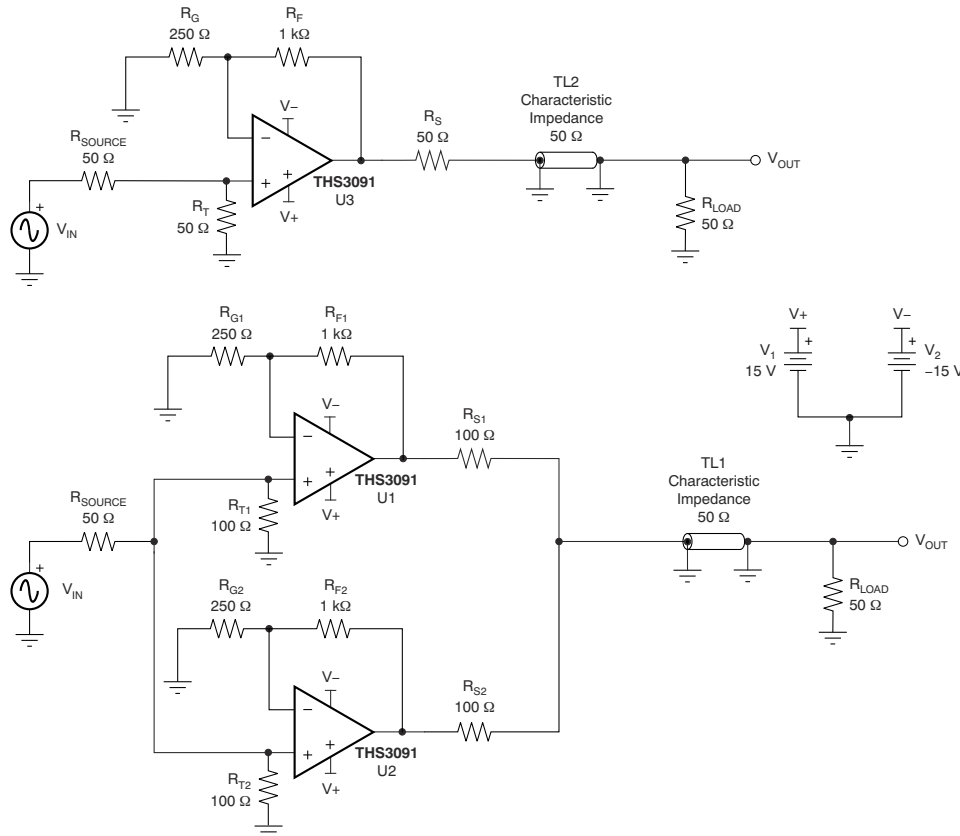

Figure 9-9. Reference THS3091 and THS3091 Load Sharing Test Configurations
The fundamental concept of load sharing is to drive a load using two or more of the same operational amplifiers. Each amplifier is driven by the same source. Figure 9-9 shows two THS3091 amplifiers sharing the same load. This concept effectively reduces the current load of each amplifier by 1/N, where N is the number of amplifiers.
As shown in Figure 9-9 for example, in a two-amplifier load sharing configuration with matching resistance driving a resistive load (RL), each series resistance is $2 \cdot RL$ and each amplifier drives $2 \cdot RL$. A convenient indicator of whether an op amp will function well in a load sharing configuration is the characteristic performance graph of harmonic distortion versus load resistance. Such graphs can be found in most of TI's high-speed amplifier data sheets. These graphs can be used to obtain a general sense of whether or not an amplifier will show improved distortion performance in load sharing configurations.
Figure 9-9 shows two test circuits: one for a single THS3091 amplifier driving a double-terminated (50-Ω cable), and one with two THS3091 amplifiers in a load sharing configuration. In the load sharing configuration, the two 100-Ω series output resistors act in parallel to provide 50-Ω back-matching to the 50-Ω cable.